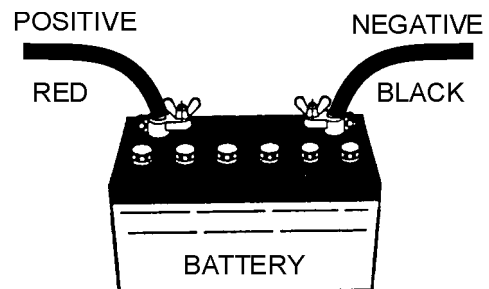

Figure 37. Battery Connections
**ALWAYS** be sure the battery cables (Figure 37) are properly connected to the battery terminals as shown below. The **red cable** is connected to the positive terminal of the battery, and the **black cable** is connected to the negative terminal of the battery.